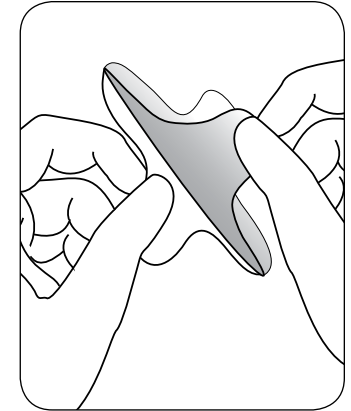

figure 10A: Removing Paper Liner
- A. Hold the applicator so the bottom of the bandage faces up. Remove the paper liner from the back of the bandage, revealing the bandage adhesive (Figure 10A).